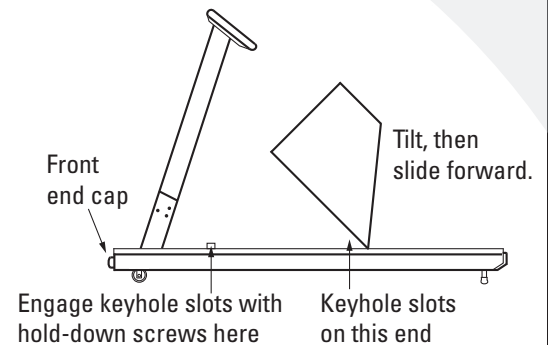

Figure 2
4. Remove the treadmill hood and hood cover from the two boxes. Position the hood on the treadmill deck and tilt as shown (Figure 2).
13. Install the two front-end caps (included) on the front ends of the treadmill frame (Figure 2).